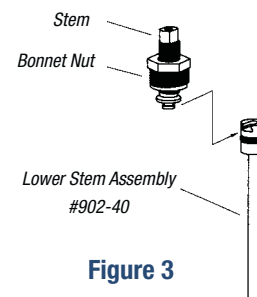
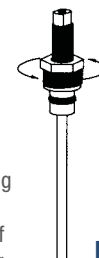

Figure 3
Figure 4
2. Turn the new bonnet nut so it is in the middle of the upper threaded stem, as shown in Figure 3. Slide the locking groove of the lower stem onto the upper stem locking pin. Hold the top of the upper stem. Turn the bonnet nut counterclockwise down the stem so that the nut covers the top of the lower stem, preventing the lower stem from slipping off the locking pin (see Figure 4).